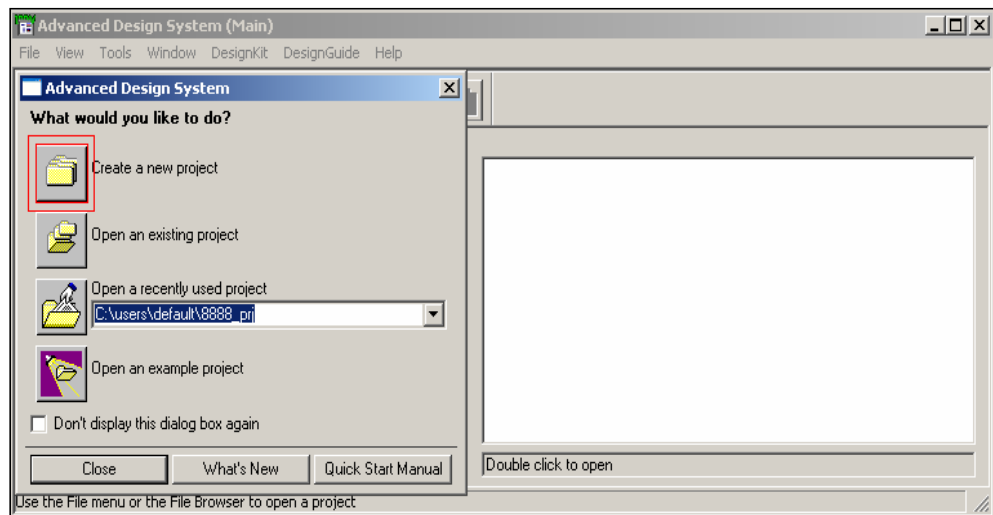

Figure 1 - Creating a new window.
1. Double click on the ADS icon. The main window will open. Open a new project, by pressing **File - New Project**, as shown in Figure 1.